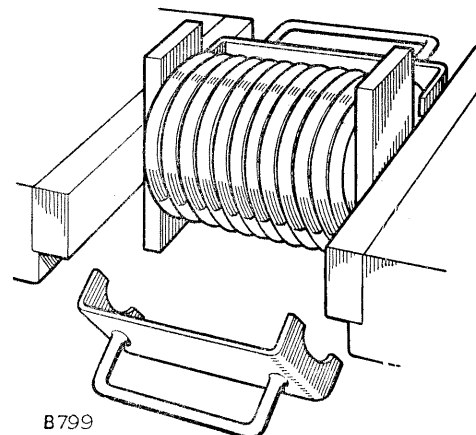

Fig. G-6—
2. Hold a suitable bar (Part No. 262768) over each end of the spring and compress it to a length of 3 in. (75 mm) in a vice, with the bars central and vertical. Place a suitable clip (Part No. 262769) over each side of the spring, as shown at Fig. G-6. Release the vice and remove the spring and clips complete.